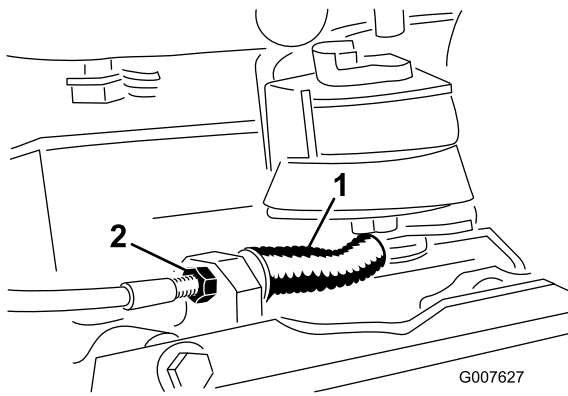

Figure 40
- To decrease the cable tension, loosen the front cable jam nut and tighten the rear jam nut (Figure 40). Repeat steps 1 and 2 and adjust the tension if necessary.
- To increase the cable tension, tighten the front cable jam nut and loosen the rear jam nut (Figure 40). Repeat steps 1 and 2 and adjust the tension if necessary.